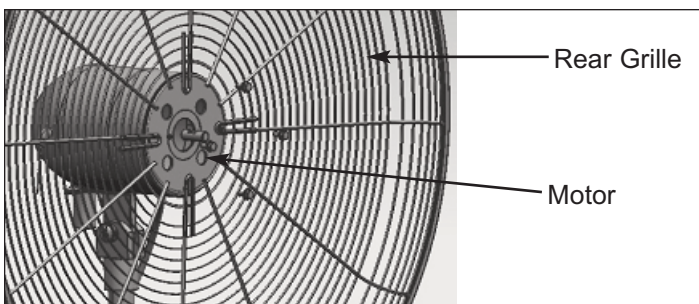

Figure 4: Attaching Rear Grille to Motor
9. Remove the screws on the Motor and attach the Rear Grille onto groove in motor shaft, and replace screws (See figure 4).